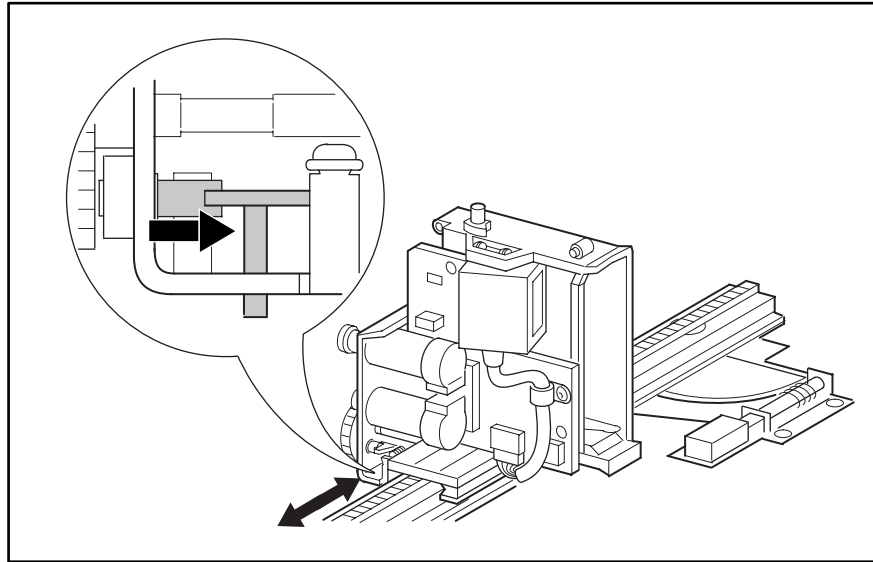

Figure 3–4: Shuttle assembly brake
7. Release the brake by moving the brake release lever to the right (see arrow in Figure 3–4). Push the shuttle assembly at the base near the track until the shuttle assembly is completely on the stationary track section (see Figure 3–4).